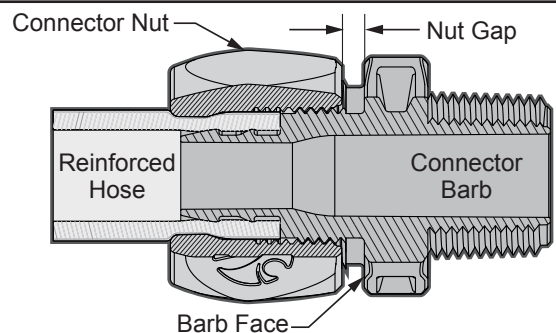

Figure 8. Quick Connect Fitting
10. Slide the hose over the barbs until a snug fit is achieved. See Figure 8.